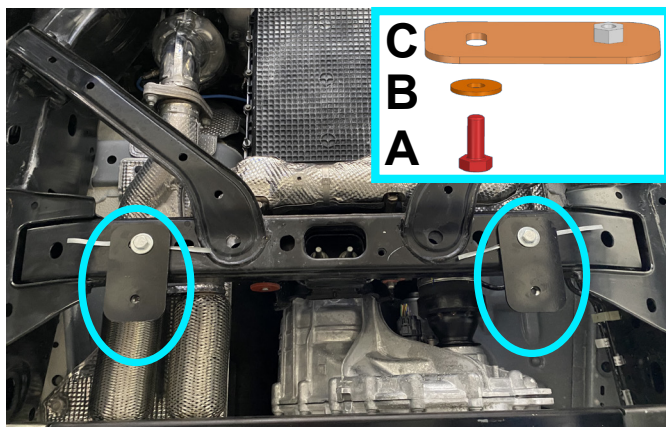

Fig. 3
3. Fix brackets (item C) to insert nut M10 (item D), using bolts M10x30 (item A) and washers 10 (item B), as shown in fig.3.